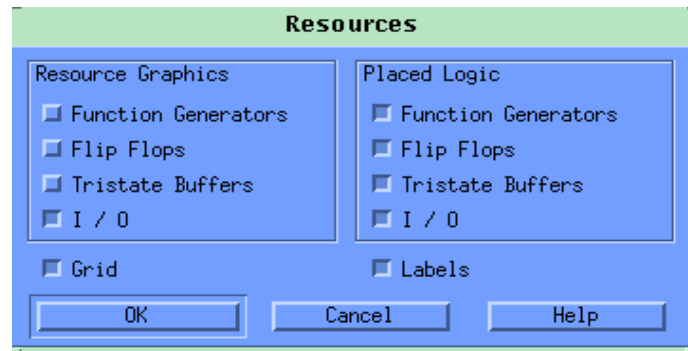

Figure 4-18 Resources Dialog Box
- If you select **View → Resources**, the Resources dialog box is displayed, as shown in Figure 4-18.